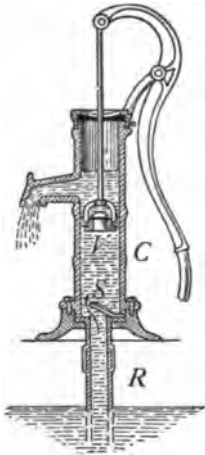

FIG. 42.—The common lift pump.
**62. Water Pumps.—The Common Lift Pump.** This, the simplest pump for raising water, consists of a cylinder *C* (Fig. 42) connected by a pipe *R* to a supply of water as a cistern or well. A valve opening upward is placed at the bottom of the cylinder over the entrance to the pipe. In the cylinder is a tightly fitting piston connected by a rod to a lever for ease in action. The piston contains a valve opening upward. In operating this pump water is usually first poured into the cylinder to “prime” it. This helps to close the valves and prevents air leaking past them. When the piston is lowered the lower valve closes, the air in the cylinder being compressed pushes the upper valve open and passes above the piston. On raising the piston the upper valve closes. This forms a partial vacuum in the cylinder.